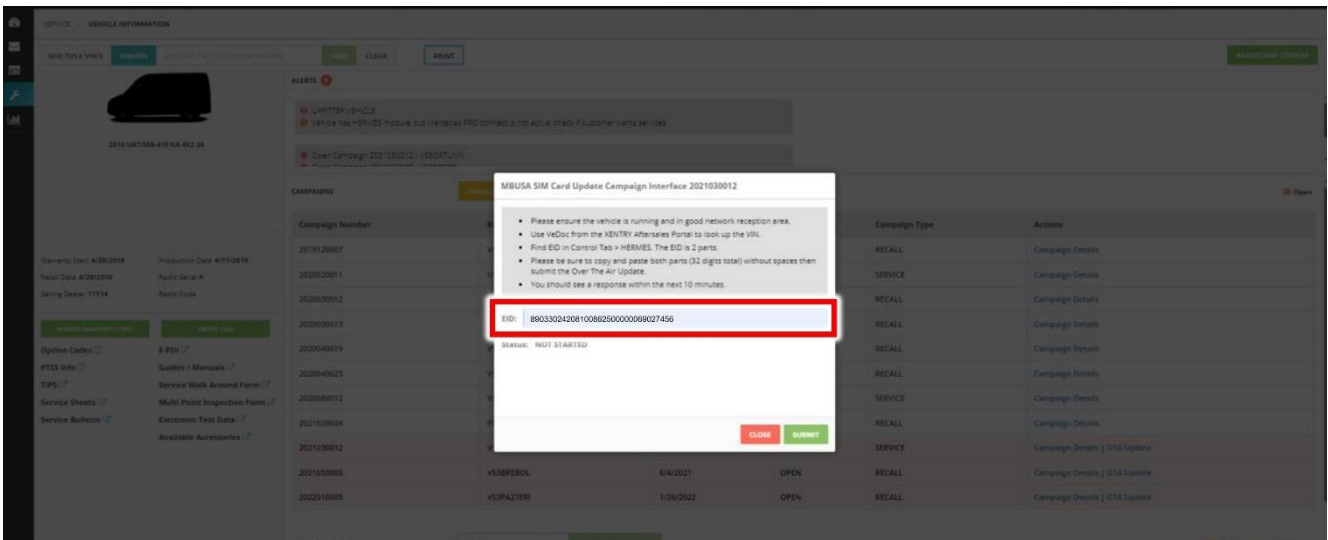

Figure 7 – EID1 + EID2 input
5. Enter the valid EID number and click on “Submit” (Figure 7).